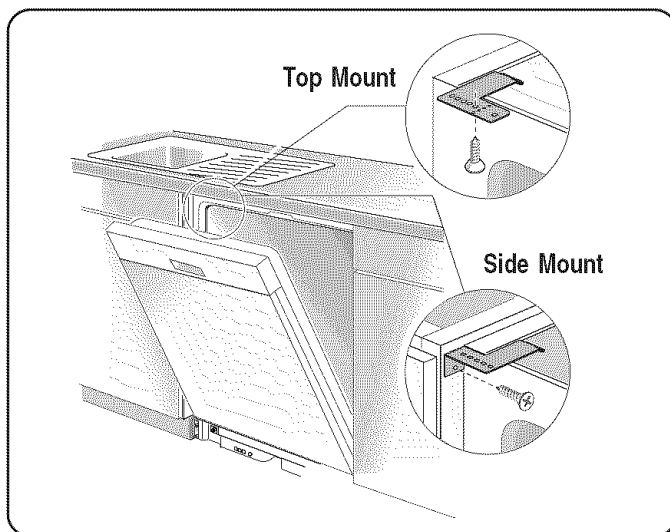

Figure 10
- 1 Top Mount** is used for countertops made of wood or other materials that can easily drilled. Orient the mounting brackets as shown in **Figure 10**, and position the two small tabs on the mounting brackets over the two slots on the dishwasher's front corners. Push the mounting brackets down firmly to insert the tabs into the slots.
- 2 Side Mount** is used for countertops made of marble, granite, or other very hard materials that cannot be easily drilled. Bend the mounting brackets along the small holes and in the same direction as the two small tabs. Orient the mounting brackets as shown in **Figure 10**, and position the two small tabs on the mounting brackets over the two slots on the dishwasher's front corners. Push the mounting brackets down firmly to insert the tabs into the slots.